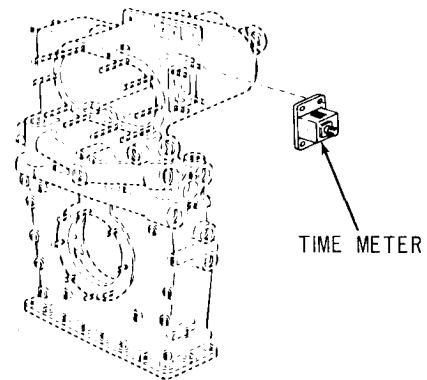

Figure 3-292. Engine time meter - exploded view.
b. *Test.* Test the totalizing meter to be sure it is functioning properly by connecting the meter electrical connection (fig. 3-292) to a 24 volt electrical system. The time totalizing meter is calibrated to record the electrical impulse in tenths of an hour and will numerically record every six minutes. Allow sufficient passage of time to be certain hour counter is performing properly.